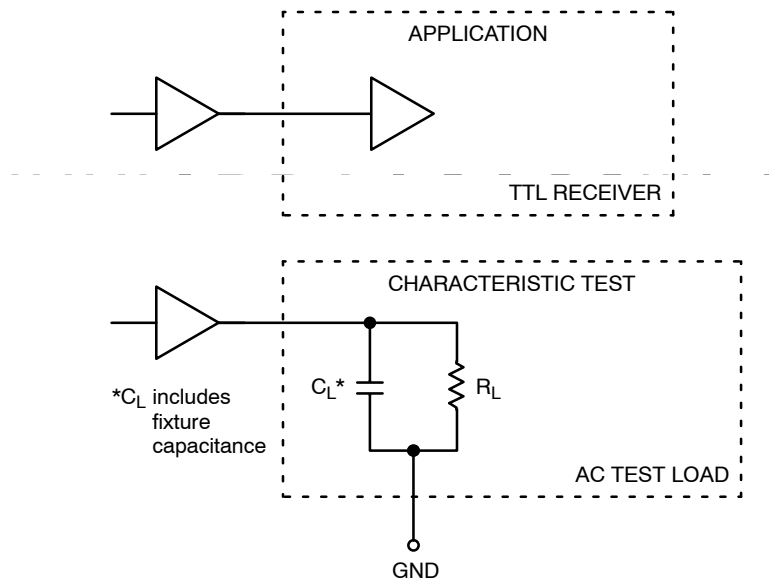

Figure 3. TTL Output Loading Used For Device Evaluation
5. Measured with a 750 mV 50% duty-cycle clock source. $R_L = 500\ \Omega$ to GND and $C_L = 20\text{ pF}$ to GND . Refer to Figure 3.